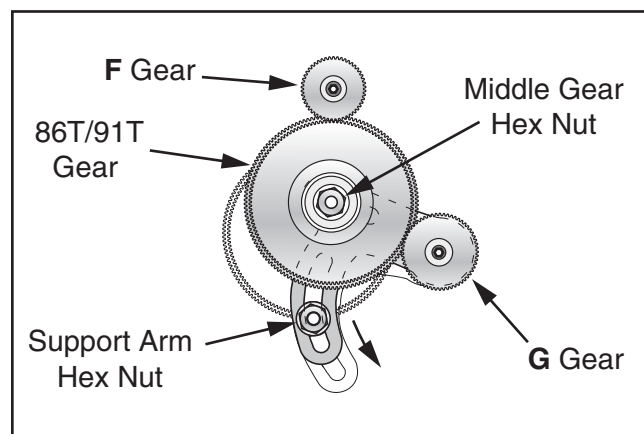

Figure 69. End gear components.
3. While holding middle 86T/91T gear assembly (see **Figure 69**), loosen the support arm hex nut and slowly let assembly pivot down.